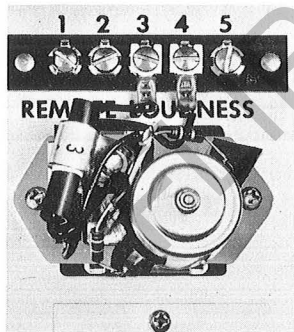
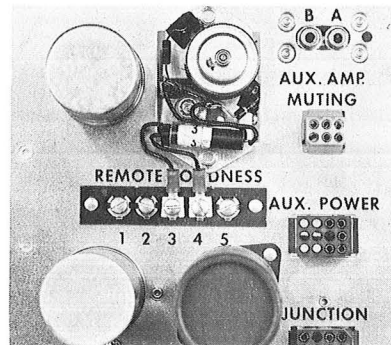
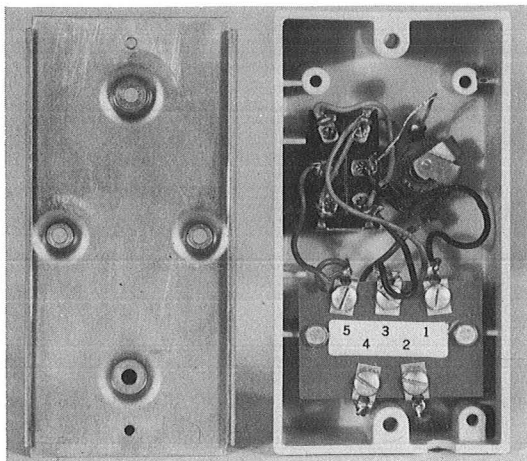

Figure 1.
Figure 2.
Figure 5.
2. The Motor, Mounting Bracket and Wire Assembly mounting hole is covered with a metal plate secured by two screws. Remove the two screws and metal plate and install the Motor, Mounting Bracket and Wire Assembly, Part No. 121006, using the two screws removed, as shown in Figure 1 (for Models 2600 through 3300) or Figure 2 (for Model 3400).
3. Connect the leads from chokes 3 and 4 to terminals 3 and 4 on the terminal board, as shown in Figure 1 (for Models 2600 through 3300) or Figure 2 (for Model 3400).
8. Connect the five conductors to the Control Case Assembly, Part No. 138962, terminal board (see Figure 5), using any convenient color code. Connect the five conductors, at the Phonograph end of the cable, to the Amplifier terminal board (see Figure 1 or 2), using the same color code. Verify that like are connected to corresponding number terminals.